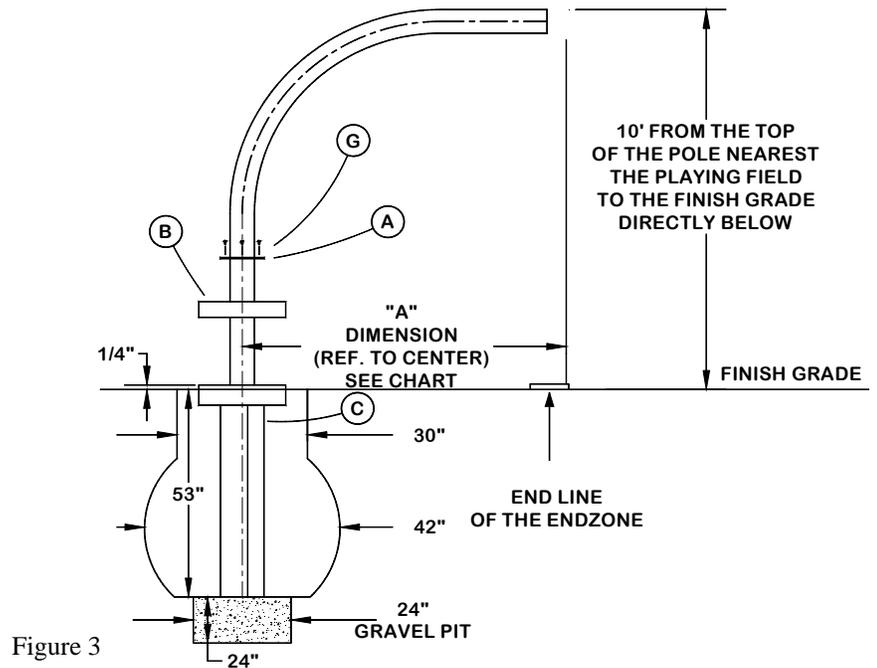

Figure 3
2. You will need to locate each ground socket so that it is centered on the playing field. See chart for the distance behind the field end line to locate the center of the socket for each model. Dig a 30" diameter hole that is a minimum of 53" deep at each of these locations, it is recommended to bell out the bottom of the hole to 42" in diameter to strengthen the footing. Dig a 24" diameter gravel pit 24" deep at the bottom of the hole. See Figure 3.
4. Before mixing the concrete place the ground socket in the hole on top of the gravel pit that you prepared. This will prevent the concrete from entering the tube and allow future water drainage. Position the socket so that it is level, plumb and square with the field. The top of the square pan should be approximately 1/4" above the finish grade of the playing field. See Figure 3.
8. Place the pole assembly into the socket. Using the 3/4" x 3" *Hex Bolts* (I), 3/4" *Jam Nuts* (J) and 3/4" *Lock Washers* (K) loosely secure the gooseneck pole so that it is plumb and that the front end of the pole is 5" behind the end line. Two of the 3/4" x 3" *Hex Bolts* (I) must go through the holes provided in the *Anti Rotation Collar* (L). See Figure 3 & 4.